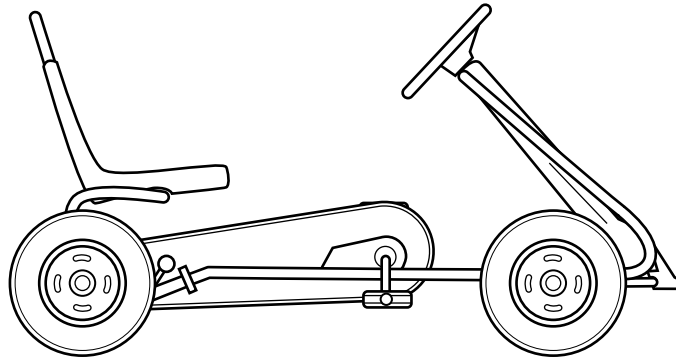

Figure 3.3
- (ii) Add labelled arrows to Figure 3.3 to show the conversion of motion in the pedal toy.